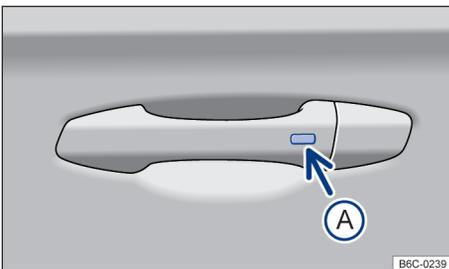

Fig. 50 On the door handle: button to unlock or lock.
- 1 Press the button → Fig. 50 **A** on the outside of the door handle.
- 2 Press the button → Fig. 50 **A** on the outside of the door handle.
- Within 5 seconds, press the button on the outside of the door handle → Fig. 50 **A**. So, don't grab the door handle. The Keyless Access locking and starting system is temporarily disabled.